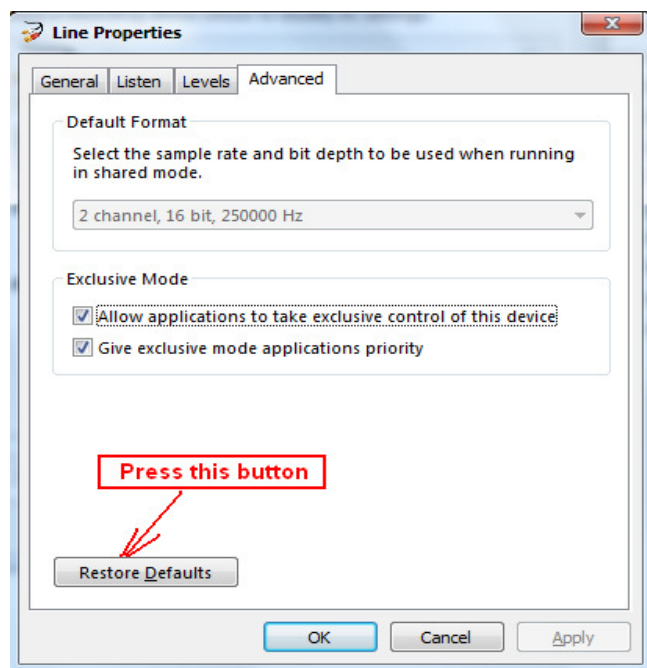

Figure 16 "Properties" window, AFEDRI SDR-Net properties changing
- In new window “Line Properties” press “Restore Defaults” button (see **Figure 16.**). It is not important what sample rate value you could see in Default Format sector (probably it will contain old value).